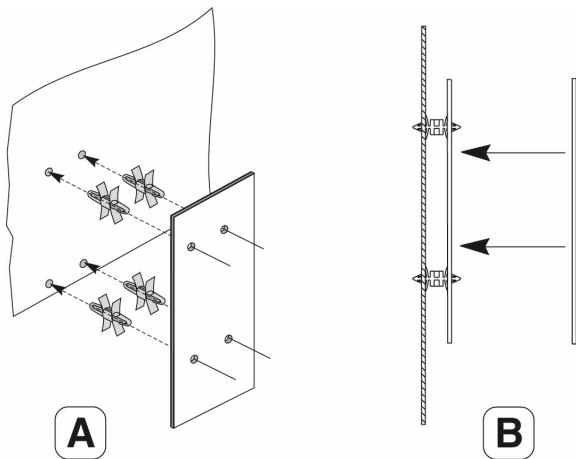

Fig. 4
1. Snap the fastening supports (included with the board) into the intended holes (A) Fig. 4.
2. Fit circuit boards (B) Fig. 4.